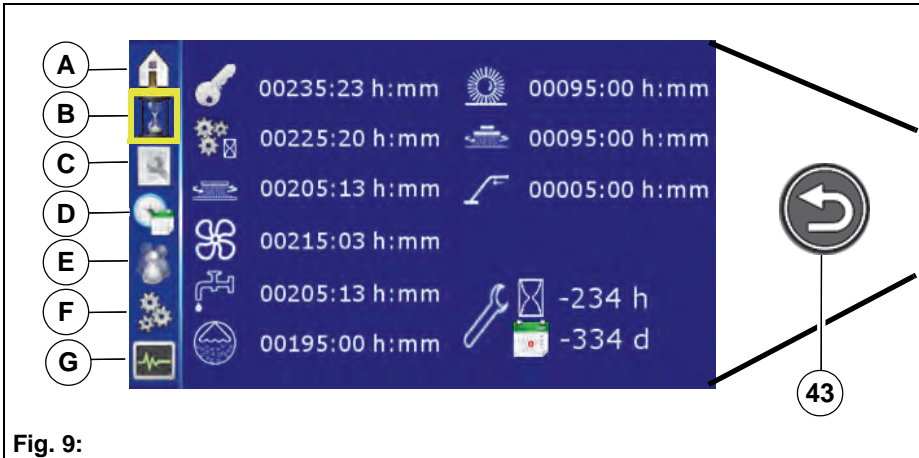

Fig. 9:
- soft key *Home* **Fig. 9-A** or
Operating hours meter menu Fig. 9-B
Maintenance menu Fig. 9-C
**Time/date menu Fig. 9-D**
**User settings menu Fig. 9-E**
**Configuration menu Fig. 9-F**
**Service information menu Fig. 9-F**